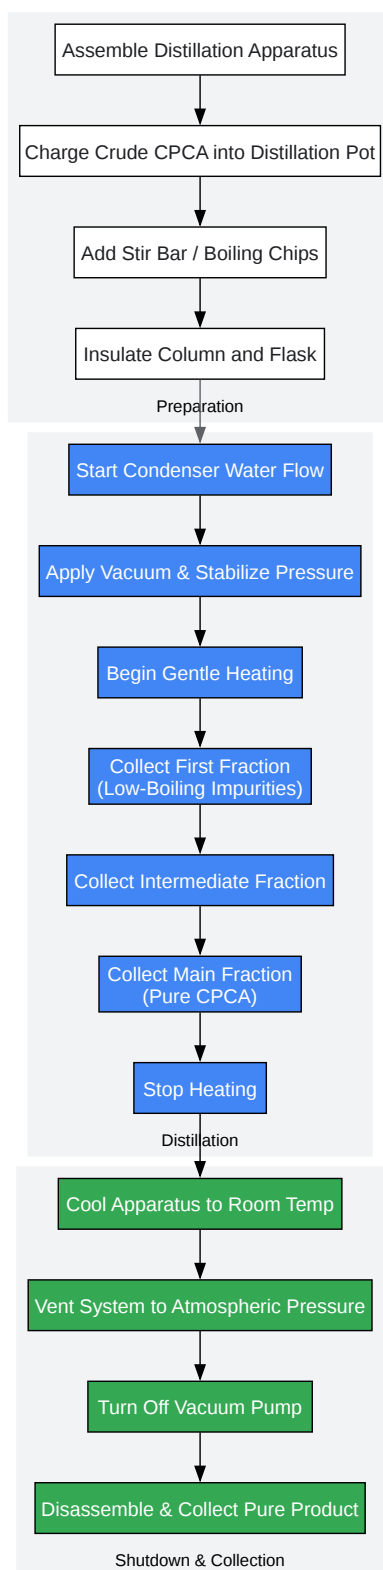

Figure 1: Vacuum Distillation Workflow
- Apparatus Assembly: Assemble the distillation apparatus as depicted in the workflow diagram (Figure 1). Ensure all glass joints are properly sealed with a suitable vacuum grease.